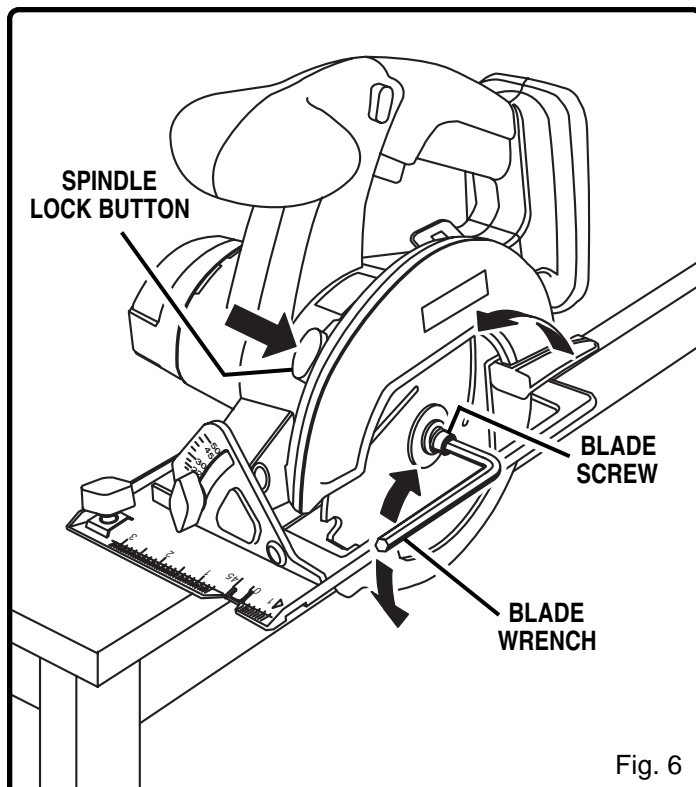

Fig. 6
- Position your saw as shown in figure 6, depress spindle lock button, and remove blade screw.